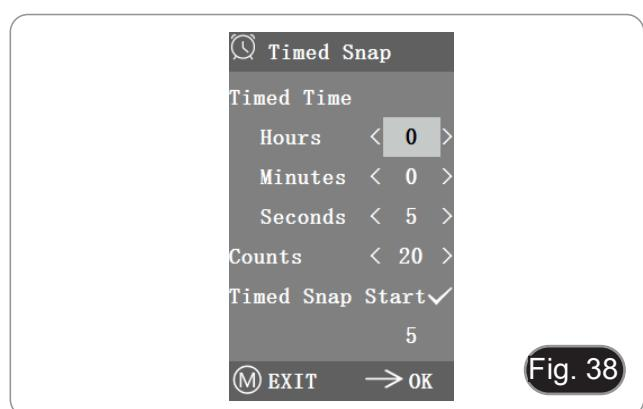

Fig. 38
2. At this point, the number jumps below. This is the number of photos that have been successfully taken so far. (Fig. 38)